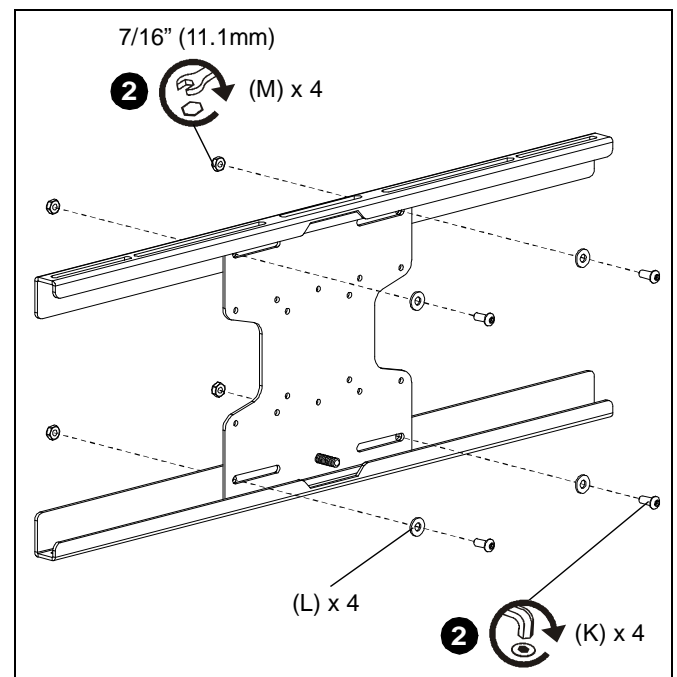

Figure 7
2. Using 5/32" hex key (H), install four 1/4 x 5/8" button head cap screws (K) through four 1/4" washers (L), faceplate (Z), faceplate brackets (B), into four 1/4" nuts (M). Tighten securely. (See Figure 7)